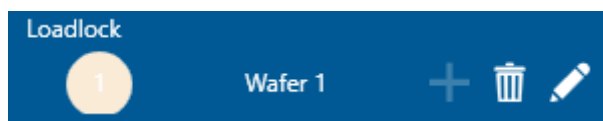

Figure 4-10 Named wafer in the Wafer Map panel
- d) Click on **Update** to save and close the wafer name panel. The wafer name appears in the Wafer Map, see Figure 4-10.